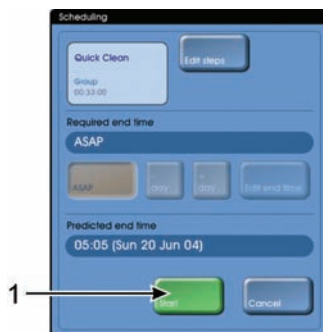

Figure 63: Scheduling dialog box with Start button (1)
- Alter scheduling details if required then select the **Start** button to begin the run (see Figure 63). Refer to Section 2.1.6 "scheduling protocols" if you wish to change the scheduling details.